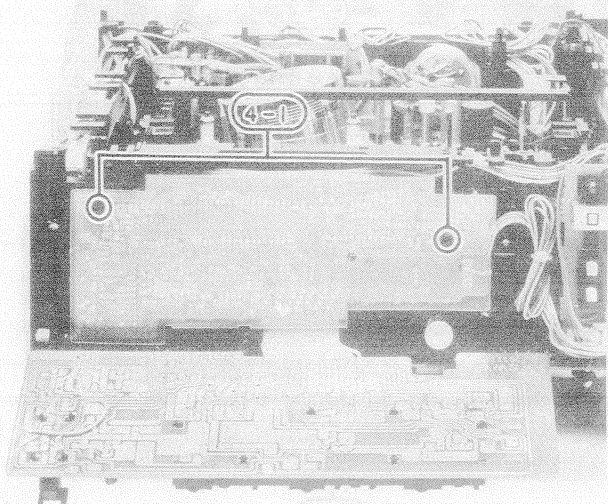

Fig. 13
4. Function control PC Board (Fig. 13)